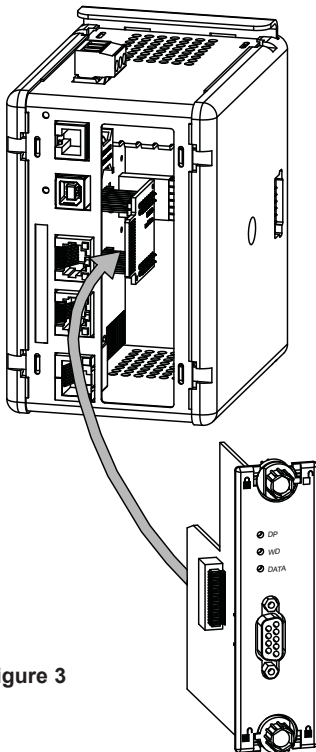

Figure 3
4. Carefully insert the option card into the expansion port opening while aligning the card-edge connector on the option card with the main board’s header, as shown in Figure 3. Once aligned, gently press on the front of the card until it is flush with the front of the case.